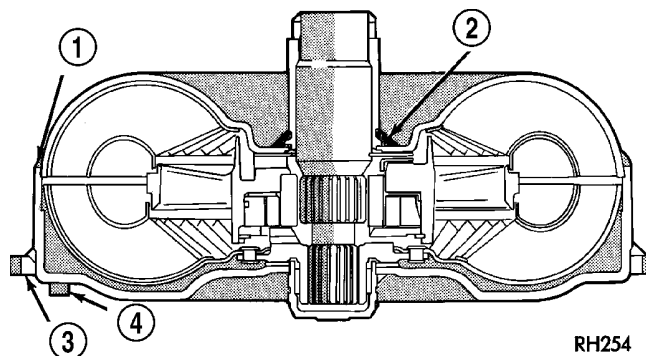

Fig. 7 Converter Leak Points—Typical
- Torque converter weld leaks at the outside diameter weld (Fig. 7).
- Torque converter hub weld (Fig. 7).